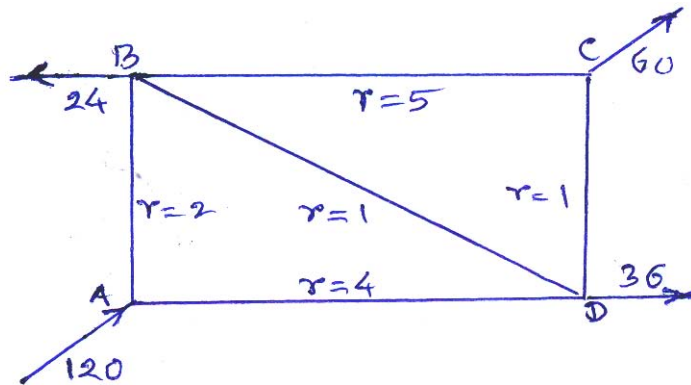

Fig. Q. 5 (b)
- b) For the pipe network shown in fig. Q.5 (b), determine the flow in each of the pipes. Assume the value of  $n = 2$  in the formula  $h_f = rQ^n$ . [12]